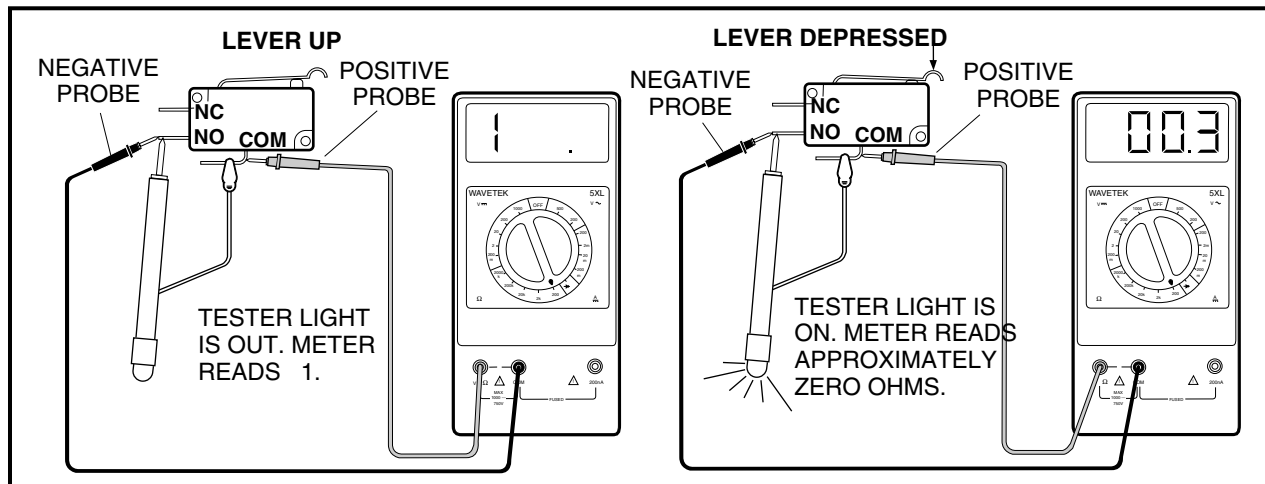

Figure 11a-25 Test Lockout Cam Limit Switch
2. Disconnect the battery cables as instructed (**Figure 11a-1, Page 11a-5**). See **WARNING "To avoid unintentionally starting..." in General Warning, Section 1, Page 1-2**.